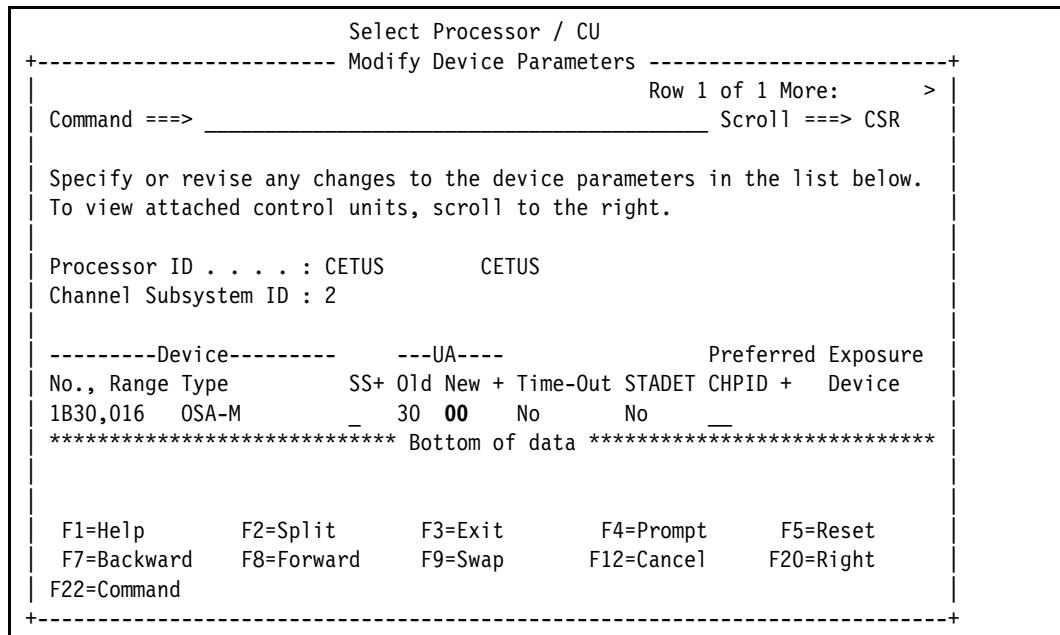

Figure 13-51 Control units: Modify Device Parameters, OSM
7. HCD now shows the Modify Device Parameters panel where you have the option to override the UA numbers. For OSA definitions, the Unit address usually starts at 00. Make the following updates to define the Modify Device Parameters (Figure 13-51), and press **Enter**: